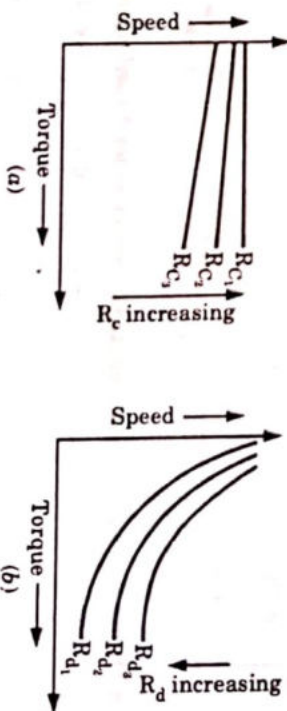

Fig. 3.11.3. Typical speed-torque curves (a) shunt motor (b) series motor.
9. Fig. 3.11.3(a) and 3.11.3(b) shows the typical speed/torque curves for shunt and series motors respectively, whose speed are controlled by the variation of the field flux.